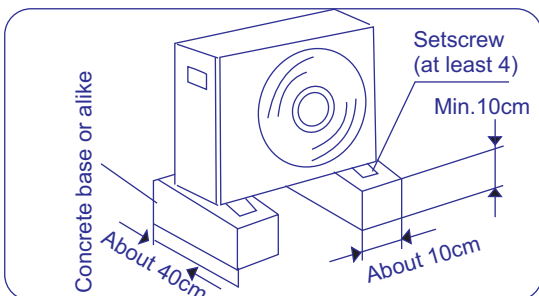

Fig.7.2
- Make a strong base(10X40cm2 board made of concrete or alike). The appliance should be placed not less than 10 cm high to avoid being wet or corroded. Otherwise, it may cause damage to the appliance or reduce its life time. (Figure 7.2)